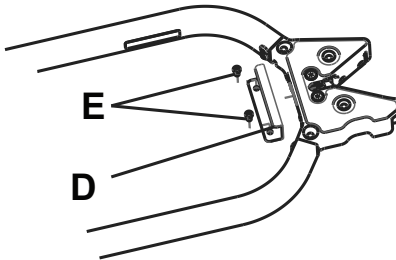

Figure 11 – Catch plate
1. Using an M6 Allen key, install the supplied catch plate (610000010015) (D) and two M6 Allen bolts (E) (not included) directly behind the cot fastener latch (Figure 11).